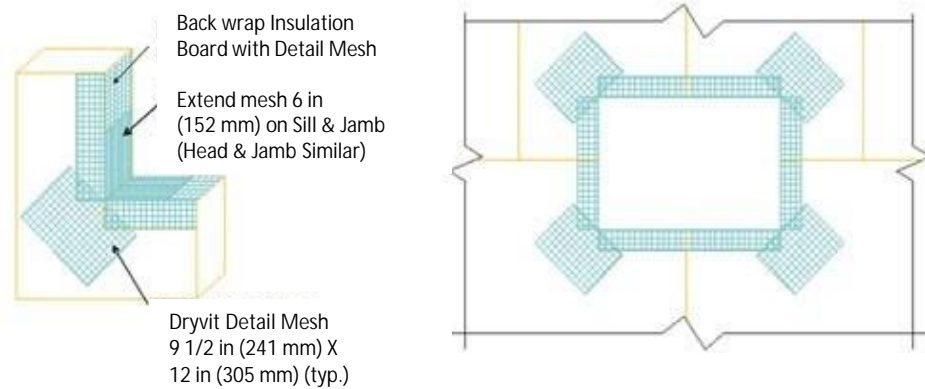

Fig. 30
- 1. At penetrations, align the Closure Blocks so that the edges (vertical and horizontal joints) do not coincide with the corners of the opening as illustrated in Figure 30.
- xviii. Corners of all openings such as windows, doors, mechanical equipment and all penetrations shall be reinforced with Detail Mesh placed diagonally to the opening as illustrated in Figure 30 previously.